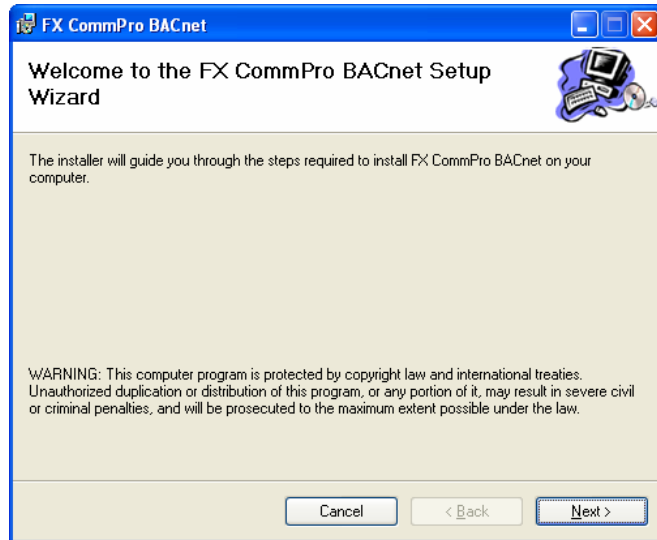

Figure 2: FX CommPro Installation Wizard
3. From the Software menu, click FX CommPro BACnet. The FX CommPro BACnet Open Setup Wizard appears (Figure 2).